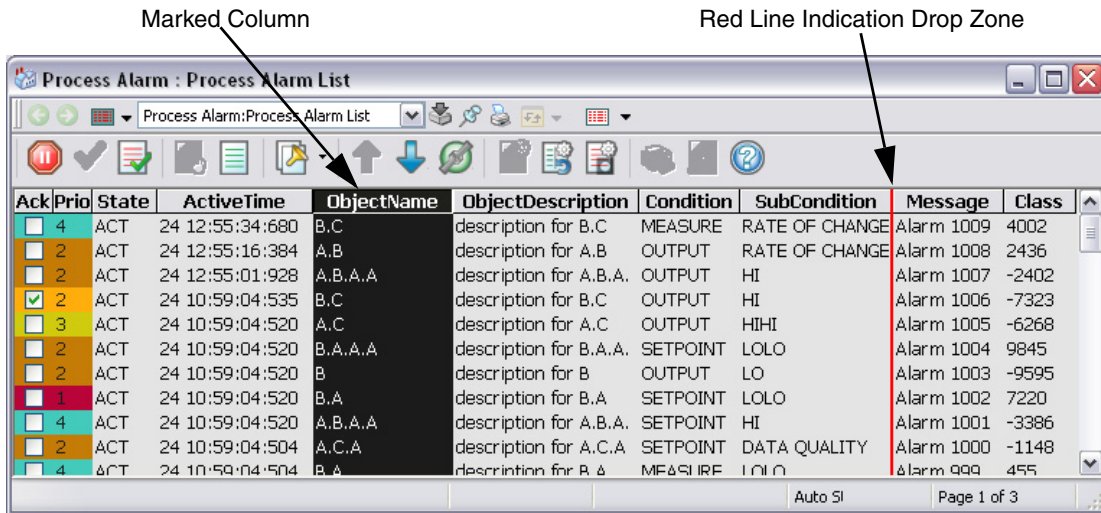

Figure 85. Moving a Column in a Process Alarm List
1. Select the column you want to move by clicking on the column header (as indicated by a down arrow pointer). This will highlight the column as shown in Figure 85.
3. Click in the table head and drag the column to the new location. A red line marks the position between columns where you can place the column. See Figure 85.